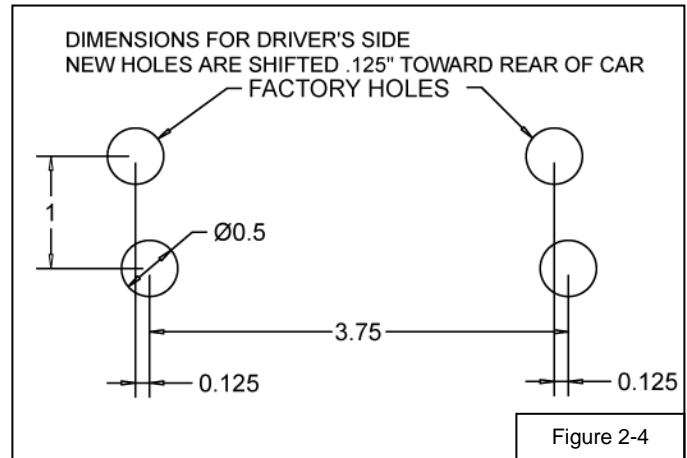

Figure 2-4
- b. If performing modification without TCP Drill Jig, drill holes as illustrated (Figure 2-4).